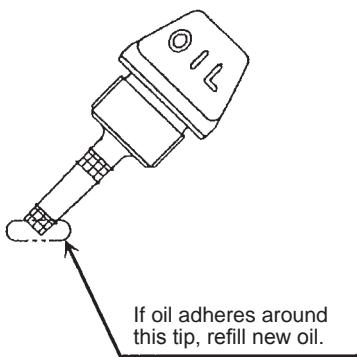
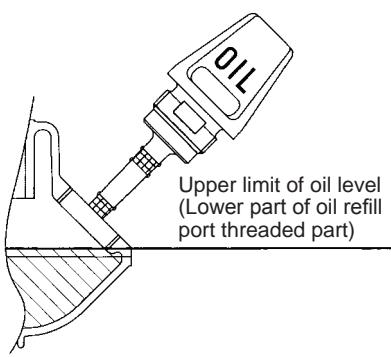

Fig. 1
Fig. 2
When the oil is in short in such a way that the oil gauge touches the oil only by its tip, in particular with the oil gauge remaining inserted in the crankcase without screwing-in (Fig. 1), refill new oil near the port (Fig. 2).
(1) Keep the engine level, and detach the oil gauge.
(2) Fill oil up to the edge of the oil refill port. (Refer to Fig. 2).